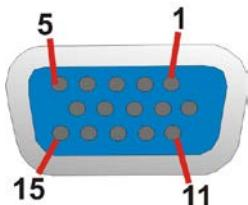

Figure 3-32: VGA Connector
**CN Pinouts:** See **Figure 3-32** and **Table 3-35**